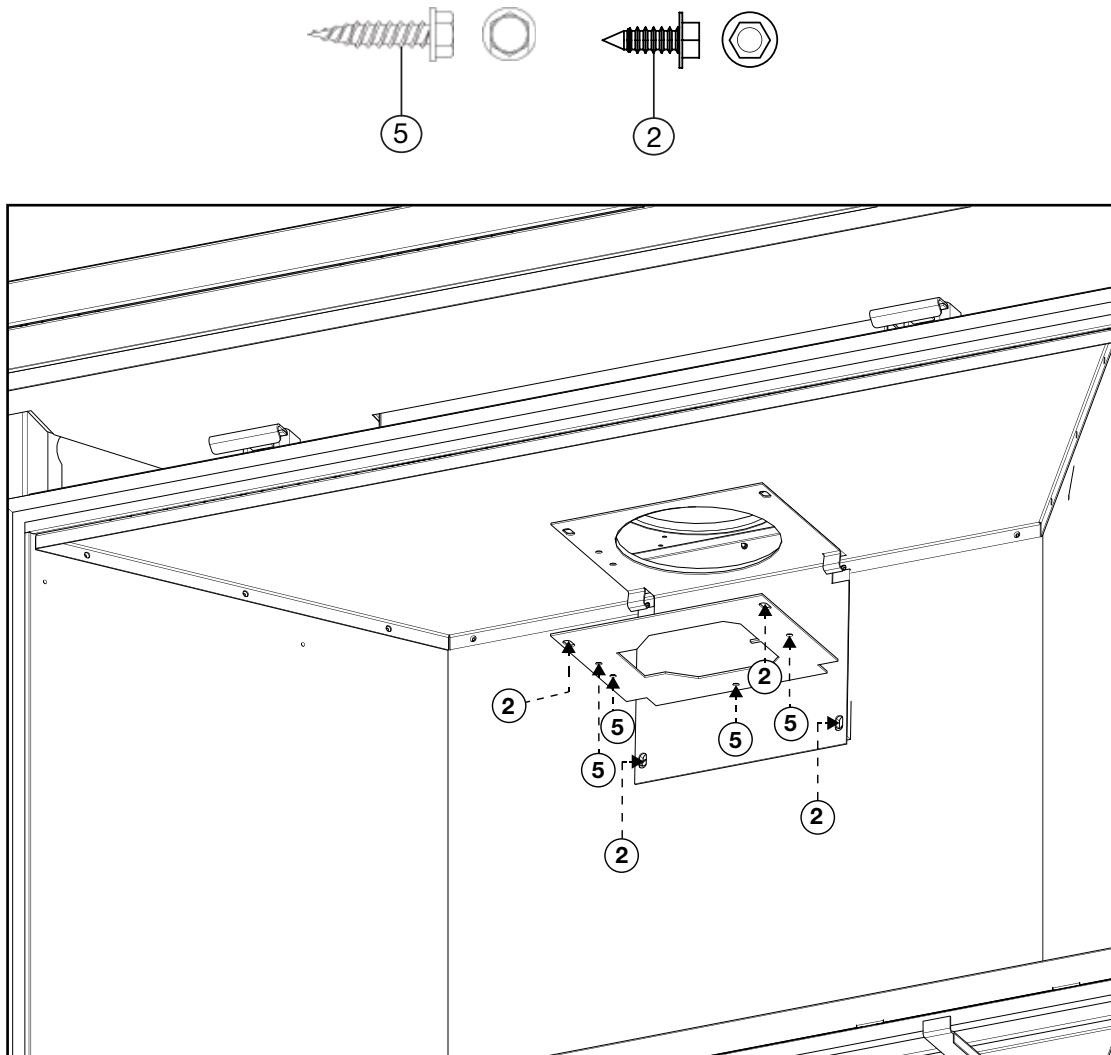

Fig. 4
- G.** Fully secure exhaust outlet reducer using 4 self-tapping screws (supplied) (**Fig. 4**).